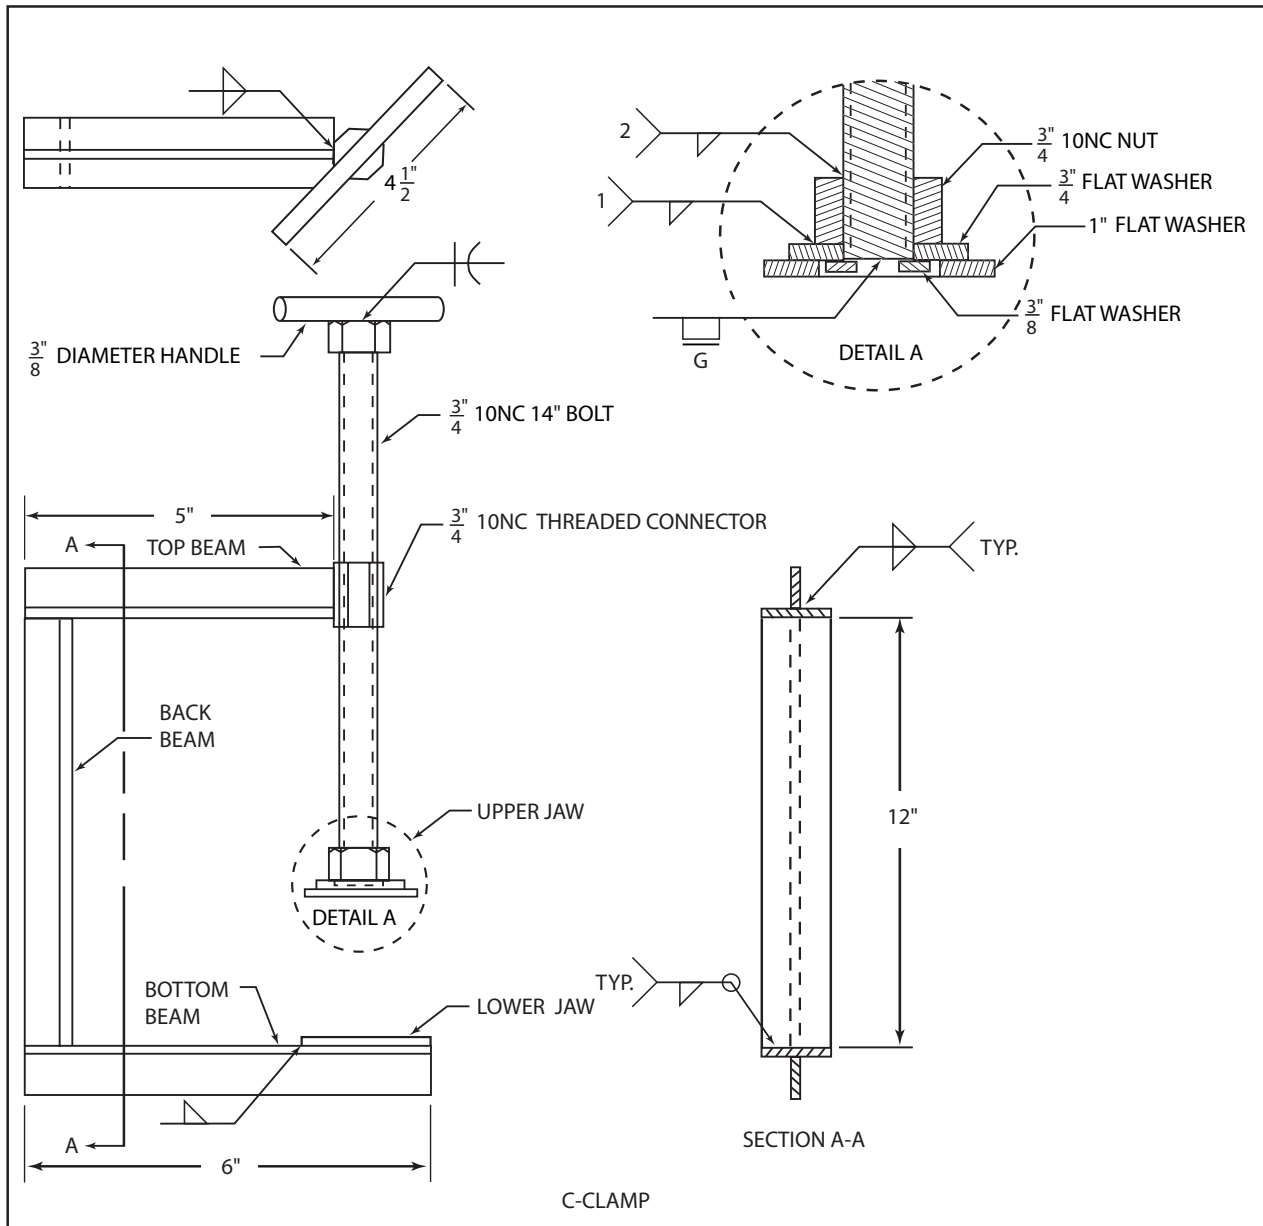

FIGURE 9-72 Project 9-7. © Cengage Learning 2012
Using a square, 12-in. rule and soapstone, lay out the plate as shown in the project drawing, Figure 9-72.
- Once the three tee beams are welded, they can be assembled according to the layout shown in Figure 9-72.
- Make four small fillet welds as shown on the number 1 welding symbol in Detail A, Figure 9-72. Cool and chip the welds.
- Screw the 3/4-10NC nut just far enough onto the bolt so that the assembled washers will fit as shown in Detail A, Figure 9-72.
- Protect the bolt threads from weld spatter, and make four small fillet welds to hold the nut in place as shown on the number 2 welding symbol in Detail A, Figure 9-72. Cool and chip the welds.